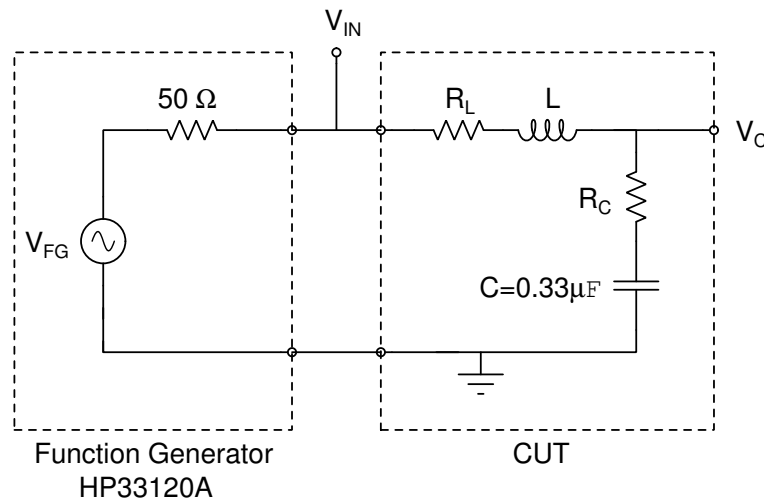

Figure 1: RLC circuit analyzed and measured in Lab #6.
3. Analyze the circuit in Figure 1 when $R_C = R_L = 0\ \Omega$ and $L = 1\text{ mH}$.
- (e) Set the function generator (FG) to produce a 1 V_p sine wave with a 2 V_{dc} offset and a frequency of 1 kHz. Verify the signal is correct using the oscilloscope. What DC offset voltage is displayed on the FG?
3. Build the RLC circuit shown in Figure 1.
- Use NGspice to simulate the the RLC circuit shown in Figure 1 using the measured values of the capacitor and inductor including the equivalent series resistances R_C and R_L .